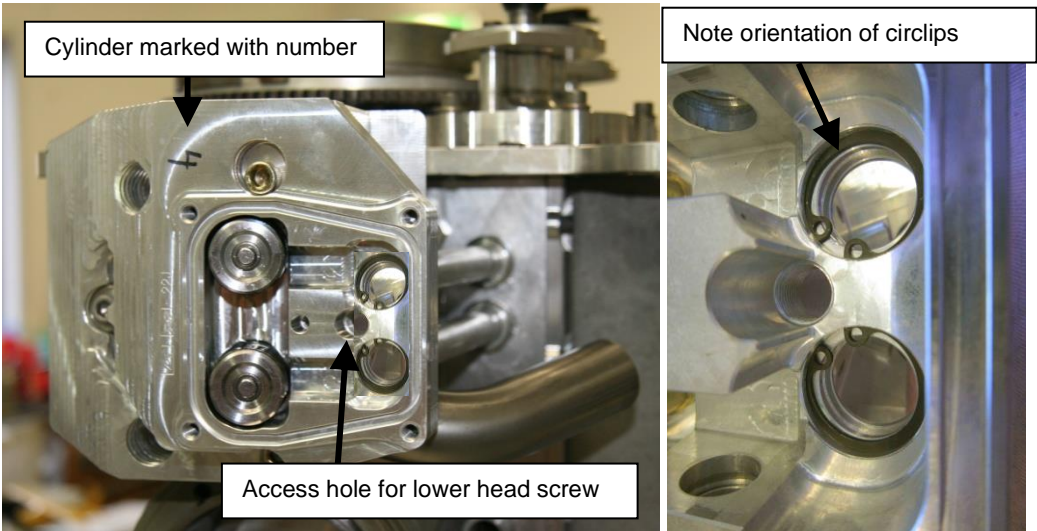
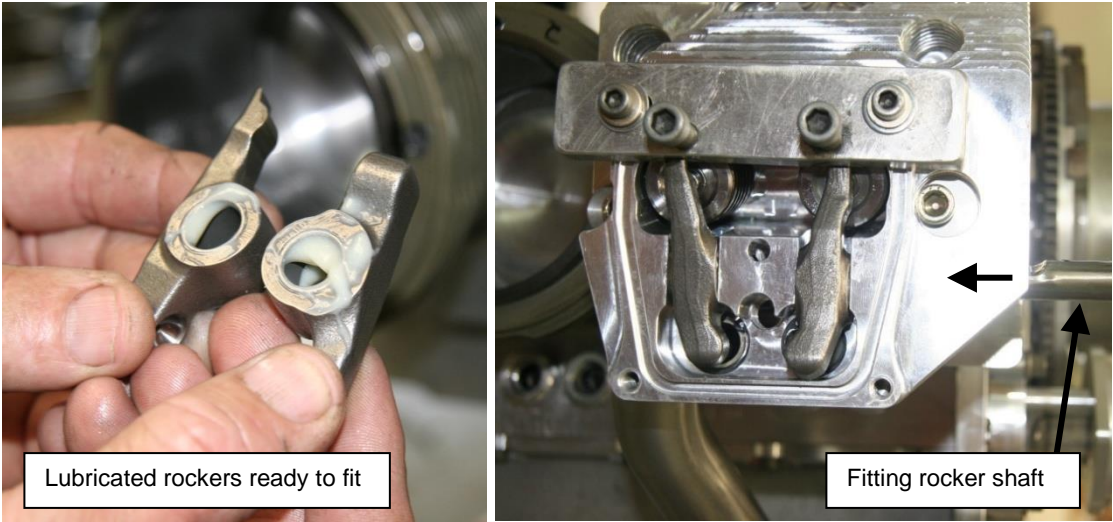

Figure 193 – Fitting Rockers #1
Figure 194 – Fitting Rockers #2
5. For hydraulic lifter engines, fit new O rings to the pushrod tube adaptors. Again these must be well lubricated with oil or Nulon L90. Fit the adaptors to the crankcase. See Figure 193 for circlip orientation.
9. Fit the cylinder head to the cylinder, feeding the pushrod tubes into the head – see Figure 193.
13. Fit the valve rockers, taking care that the pushrod is correctly seated into the sockets in the lifter and in the rocker. The rockers and the rocker shaft must be lubricated well with Nulon L90 or oil as shown in Figure 194 and then driven in using a suitable punch and a soft hammer. The shaft is punched in with the rounded end leading.
15. Tighten the cylinder head screws (6) to 15 lb.ft and then to the value specified in Table 9 using a standard diagonal tensioning pattern.
16. Fit the tapered blanking plug to the access hole for the lower cylinder head screw (shown in Figure 193 – left). Note that this plug must not be over-tightened. If the plug is done up too tightly then over time its tapered thread will wear the thread in the cylinder head, requiring it to be screwed in